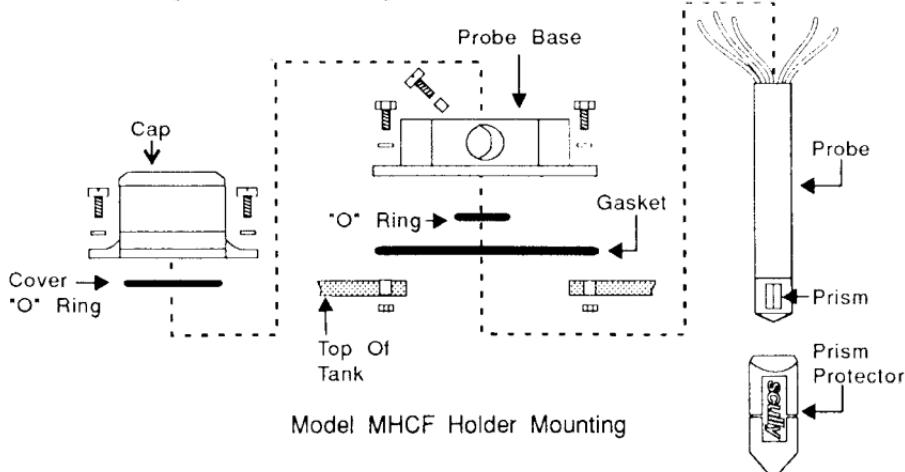

Figure 3.6 The Flanged Holder Mounting Technique
1. Install the gasket between the flange on the probe holder base and the outside of the mounting surface. Use 1/4-20 bolts, nuts and lock washers as required for either the four (4) mounting holes on the flange or for the six (6) mounting holes, depending on the pattern used. Tighten the bolts evenly so that the gasket is uniformly compressed. To prevent damage to the gasket, don't over tighten the mounting bolts. See Figure 3.6.